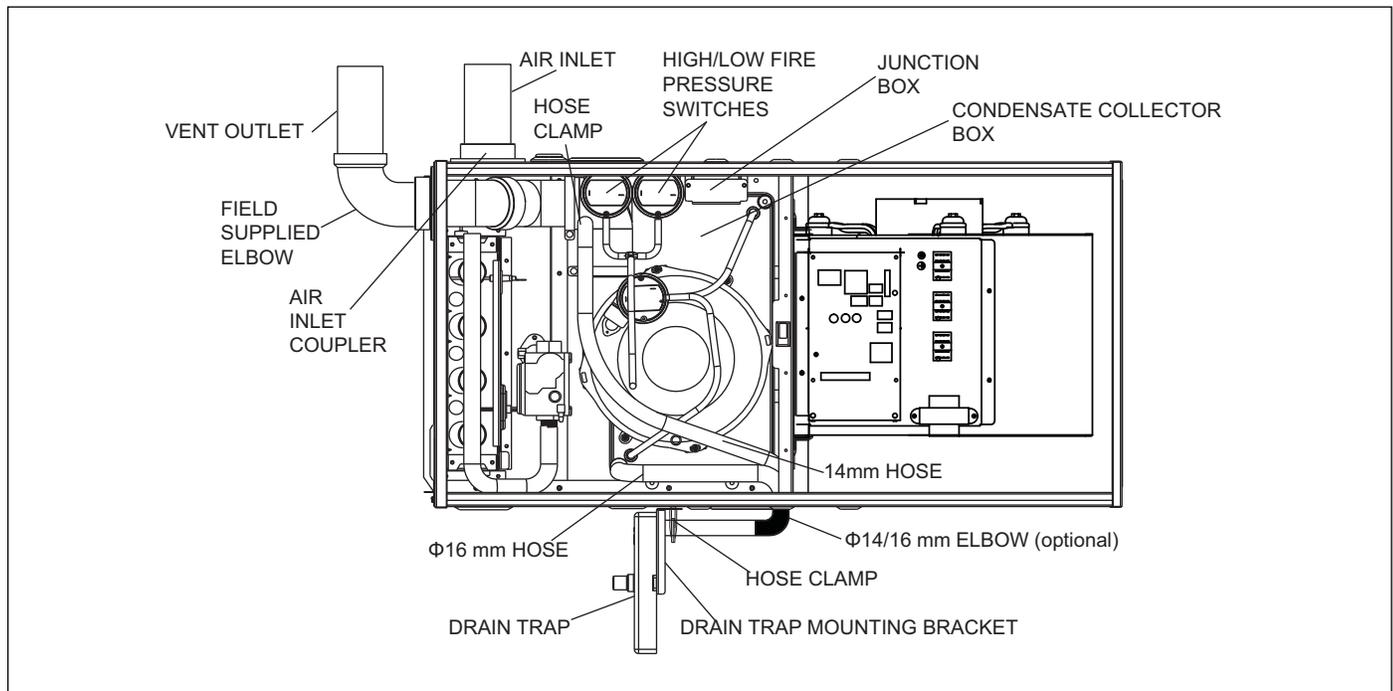

Figure 17 Horizontal Left Side Installation, Vent Through Top Panel
- ▶ For horizontal left hand installation (air discharge to the left), condensate overflow pressure switch hoses need to be rerouted (see Figures 17 & 20).
**For installations with left air discharge and venting outlet through furnace top panel (see Figures 17 and 18).**
9. Connect 14 mm hose between the side inducer drain port (remove black rubber plug to connect hose) and drain trap. Refer to Figure 17.
14. Relocate the High/Low Fire Pressure Switches (2) to the opposite side of the cabinet (as shown in Figure 17 and 18). Screws for mounting these switches should not interfere with any components inside the furnace.